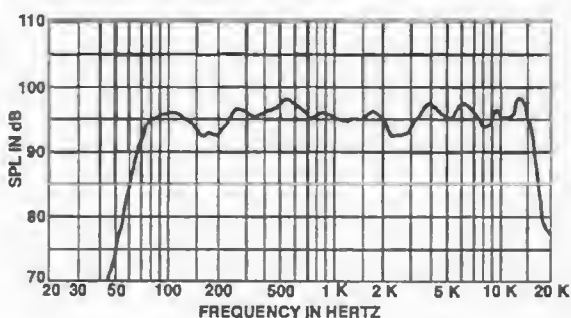
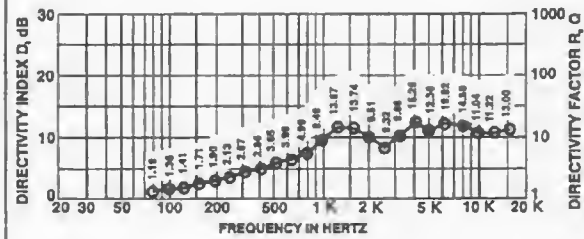
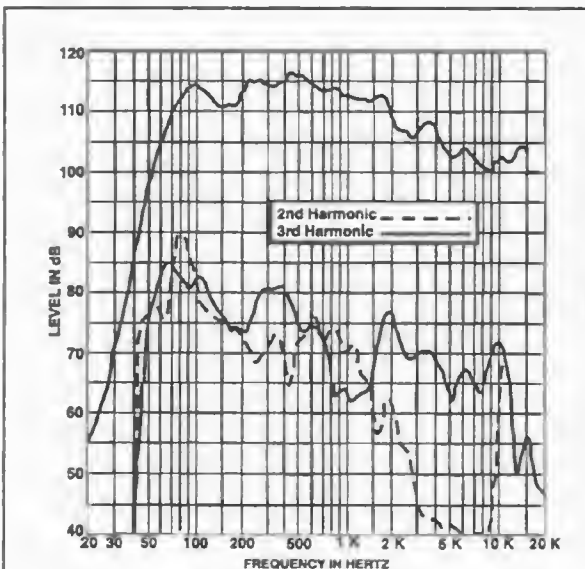

FIGURE 1—DMC-1122X/DMS-1122/85
FIGURE 5—DMC-1122X/DMS-1122/85
FIGURE 6—DMC-1122X/DMS-1122/85
CHANNEL CONFIGURATIONS: Monoaural two-way; two sense channels FILTER TYPE: 4th-order Linkwitz-Riley CROSSOVER FREQUENCY: 1,480 Hz GAIN: 5 dB nominal SIGNAL-PATH EQUALIZATION (see Figure 1), LF EQ: -3 dB at 40 Hz, +11 dB at 84 Hz LF Signal Delay: 0.03 ms at crossover frequency HF EQ: 4th order optimized for DMS-1122/85 series driver and horn TOTAL HARMONIC DISTORTION, 20 - 20,000 Hz: 0.03% typical, 0.1% maximum NOISE, EACH OUTPUT, 20 - 20,000 Hz NBW, TYPICAL: -86 dBu SIGNAL INPUT, Type: Electronically balanced differential Maximum Level: +18 dBu Impedance: 27,000 ohms and .0015μf CMRR, Typical: -55 dB	Connector: Female 3-pin XLR-type SENSE CHANNEL INPUTS, Type: Floating differential Maximum Level, LF: 145 V rms HF: 145 V rms Impedance: 100 kilohms each side to ground Connector: Two five-way binding posts OUTPUTS (LF and HF): Type: Electronically balanced differential Maximum Level: +18 dBu Minimum Load Impedance for Full Level: 600 ohms Connectors: Male 3-pin XLR-type POWER REQUIREMENTS: 100, 120, 220, 240 V ac, 50 - 60 Hz, 13 W CHASSIS CONSTRUCTION: Painted steel COLORS: Gray front panel/black chassis with white graphics MOUNTING: EIA 19-inch rack mount, 1.75 in. high, 8.97 in. behind panel (including connectors); supplied with front-panel security cover for controls.
Frequency Response (measured in far field, calculated to one meter on axis, swept sine wave, one watt into LF section - 2.83 V at 250 Hz, anechoic environment; see Figure 1): 60-16,000 Hz Crossover Frequency: 1,480 Hz Efficiency, LF/HF: 4.8/25 % Maximum Long-Term-Average Power-Handling Capacity (per ANSI/EIA RS-426A 1980), LF/HF: 300/60 watts Maximum Long-Term-Average Midband Acoustic Output, LF/HF: 14/15 acoustic watts Sensitivity (SPL at one meter, indicated input power, anechoic environment, average level), LF/HF, 1/1 watt: 99.0/110.0 dB 300/60 watts: 124.0/128.0 dB	Beamwidth (angle included by 6-dB-down points on polar responses, indicated one-third-octave bands of pink noise; see Figures 3 and 4), Horizontal, 1,200-16,000 Hz: 80° (+15°, -30°) Vertical, 1,200-16,000 Hz: 55° (+70°, -20°) Directivity Factor, R (Q), 1,200-16,000 Hz Average (see Figure 5): 12.3 (+4.0, -6.0) Directivity Index, D, 1,200-16,000 Hz Average (see Figure 5): 10.9 dB (+1.2 dB, -2.9 dB) Distortion (115 dB SPL at one meter, shaped spectrum; see Figure 6), Second Harmonic, 100 Hz: 2.4% 500 Hz: 0.7% 2,000 Hz: 2.1% 5,000 Hz: 1.0%
NOTE: The gain has been structured within the DMC-1122X controllers so that DMS-1122/85 loudspeaker will have a flat frequency response (as shown in Figure 1) in an anechoic environment with the output levels of the controllers set in the 0-dB-detent position and with the amplifier channels having identical gain driving the LF and HF sections of the speaker.